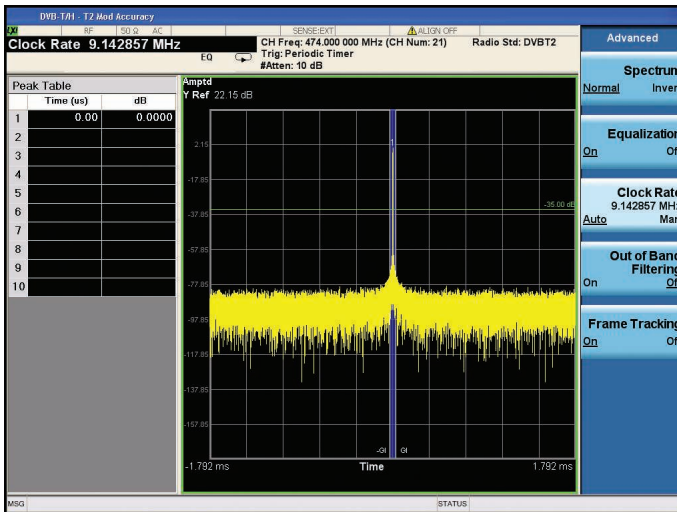

Figure 28. Channel impulse response view
- **Channel impulse response** view (Figure 28): A view of the state of the channel
View the channel impulse response and turn on the equalization (Figure 28)	[View/Display] {Channel Impulse Response} [Meas Setup] {Advanced} {Equalization} {On}